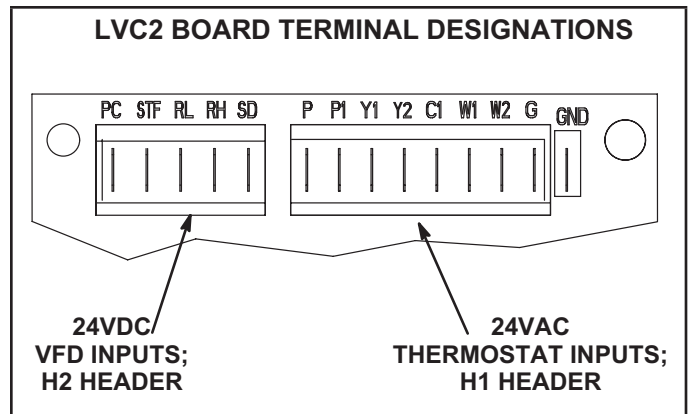

**FIGURE 37**
To save energy during ventilation, the blower speed can be set to low. This is accomplished by changing the ventilation speed switch on the VFD control board to "LO". See figure 37.
To maintain required minimum ventilation air volumes when the unit is in the occupied mode, two minimum damper positions must be set. A high and a low speed potentiometer are provided on the VFD control board to adjust minimum damper position. See figure 37.
- 5 - Check the power LED on the board. See figure 37.